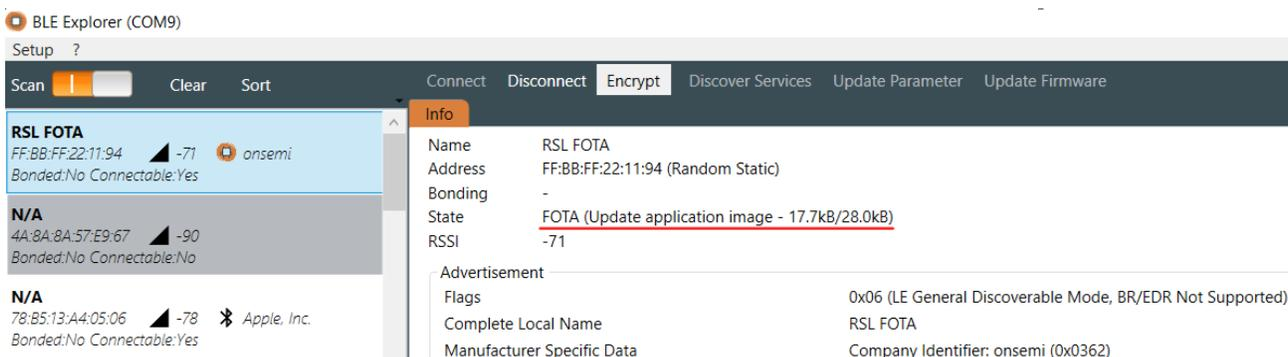

Figure 10. Updating Firmware
- Once the FOTA firmware image file is selected, it starts updating the firmware, as shown in the "Updating Firmware" figure (Figure 10).